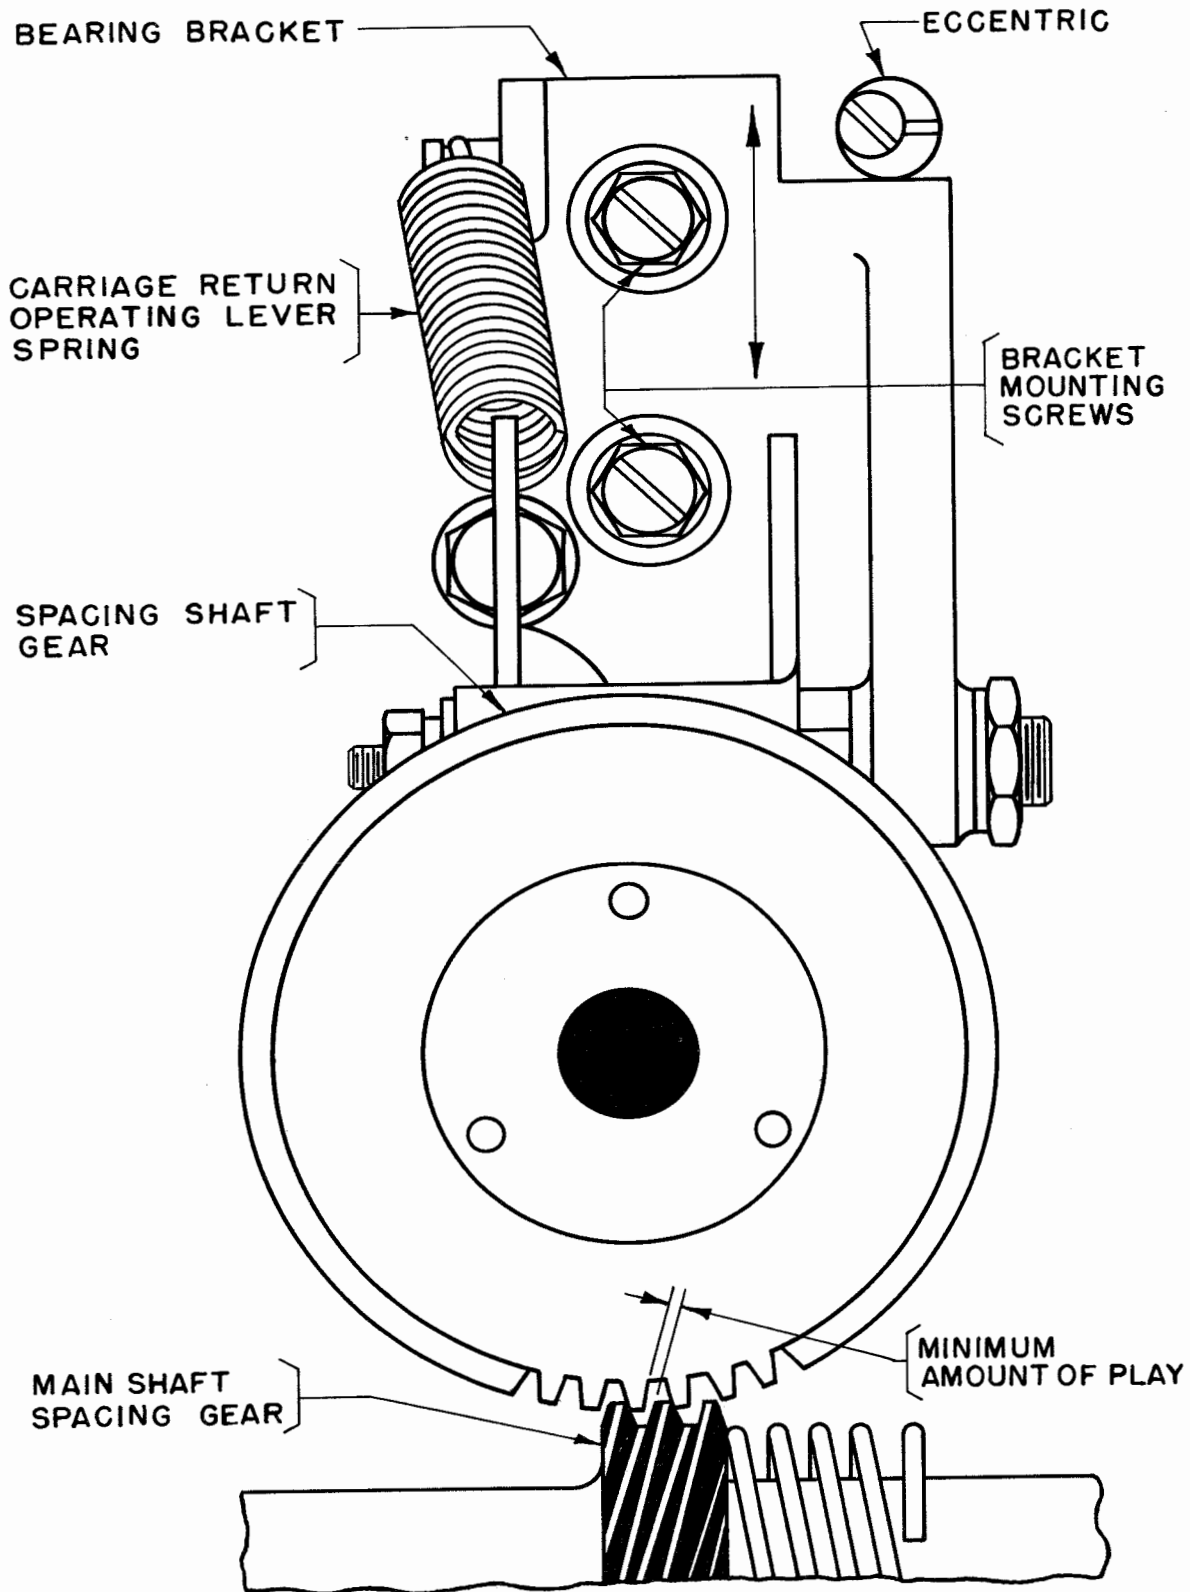

Figure 23
2.39 Spacing-shaft Gear and the mainshaft-spacing gear should engage with minimum backlash without bind at the closest point in a complete revolution of the spacing-shaft gear, gauged by eye and feel, when the carriage-return operating-lever spring is unhooked from its bearing bracket. See Figure 23.